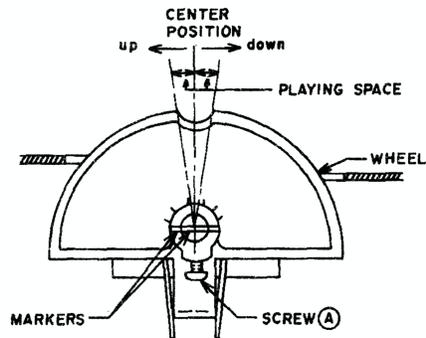

Fig. 6-1. Pitch Bend Wheel
- 1) Mount the VR to the wheel, then coincide the markers on the wheel and VR shaft as shown Fig. 6-1 and tighten screw ①.
- 3) If they are not equal, loosen screw ① and adjust by slightly turning the VR shaft.